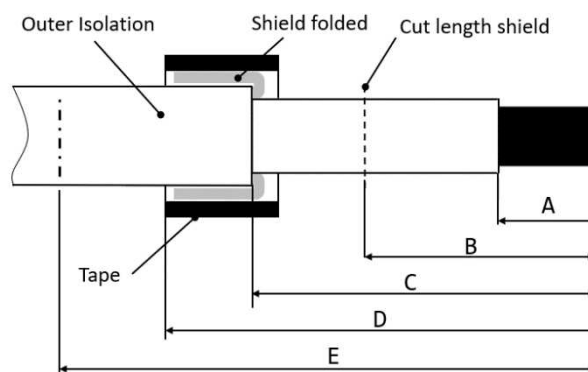

**Figure 22**
Remove outer isolation and shielding braid of DC-HV-Cable acc. dimension B, remove inner isolation acc. dimension A (figure 22).
**Alternative** to prepare cable according step 5a figure 22, is it also possible to prepare cable similar figure 23. In this case it is necessary to protect complete backward folded shield braid (folded over outer isolation) with tape (e.g. Certoplast 9mm).